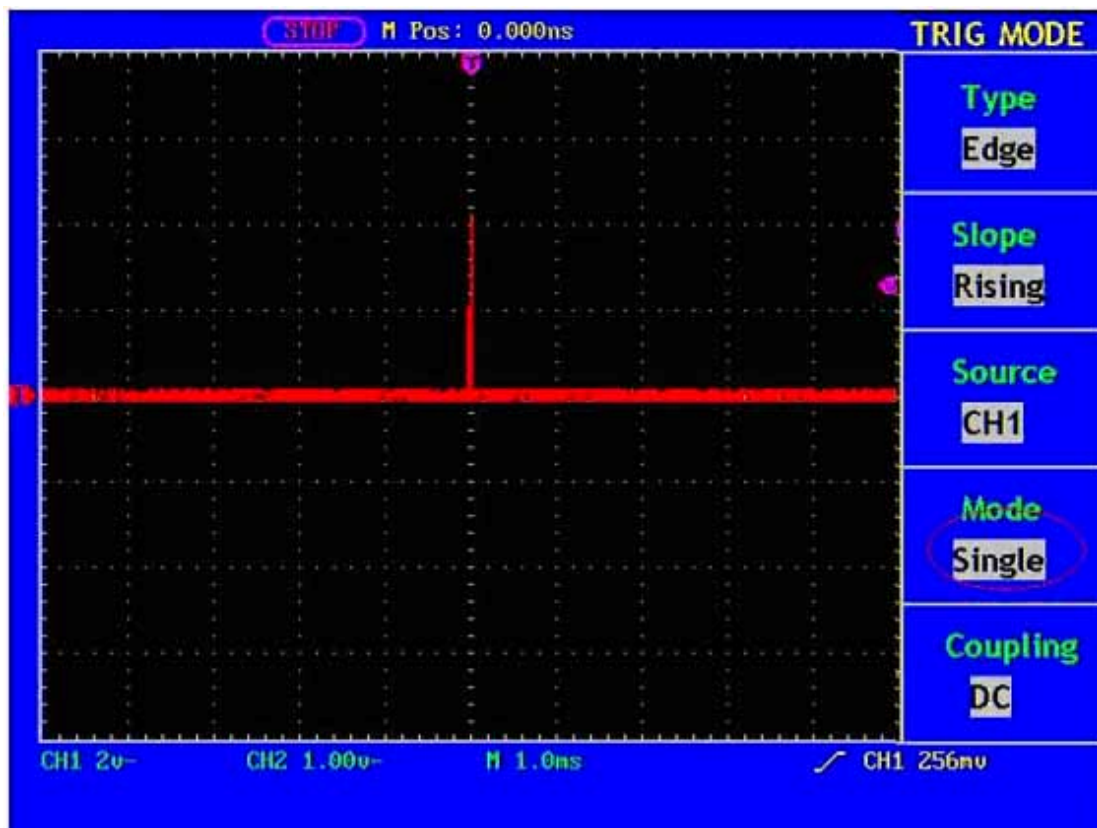

Fig. 59 Capture the Single Signal
10. If the **Trigger State Indicator** at the top of the screen does not indicate **Ready**, push down the **RUN/STOP** button and start **Acquire**, waiting the emergence of the signal in conformity with the trigger conditions. If a signal reaches to the set trigger level, one sampling will be made and then displayed in the screen. With this function, any random occurrence can be captured easily. Taking the burst burr of larger amplitude for example, set the trigger level to the value just greater than the normal signal level, and then press the **RUN/STOP** button and wait. When there is a burr occurring, the instrument will trigger automatically and record the wave form generated during the period around the trigger time. With the **HORIZONTAL POSITION** knob in the horizontal control area in the panel rotated, you can change the horizontal position of the trigger position to obtain the negative delay, making an easy observation of the waveform before the burr occurs (see Fig. 59).